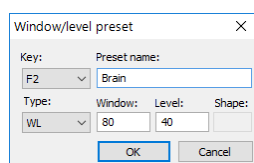

Figure 161 – Window/level preset dialog – defining a new preset
3. The **Window/level preset** dialog is then displayed. The initial values for the window, level shape and palette graduation type (even if not displayed) are the same as the current window/level settings in the current view (see Figure 161).